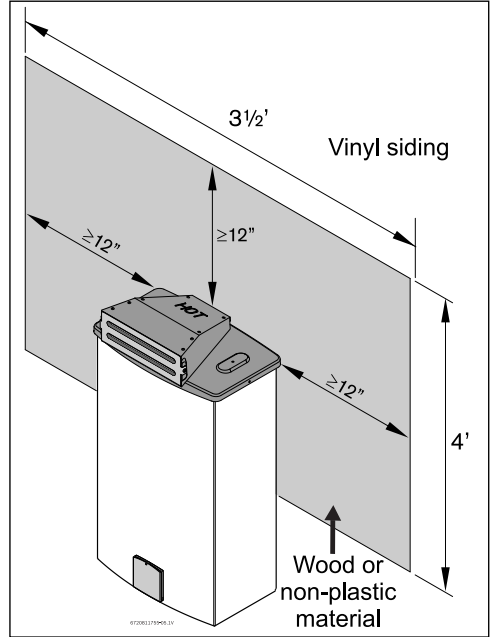

Fig. 10 Installation on vinyl siding
- ▶ Do not mount water heater directly onto vinyl siding, see Fig. 10.
- ▶ With vinyl siding, a 3 1/2' x 4' area of the siding must first be removed and then replaced with wood or other non-plastic material. See Fig. 10.